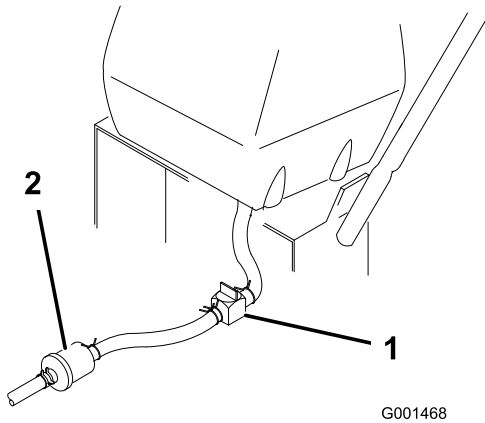

Figure 31
- Close the fuel shut-off valve at the fuel tank (Figure 31).
- Squeeze the ends of the hose clamp together and slide it up the fuel line away from fuel filter (Figure 31).
- Pull the fuel line off the fuel filter (Figure 31). Open the fuel shut-off valve and allow the gasoline to drain into a gas can or drain pan.
3. Close fuel shut-off valve at the fuel tank (Figure 31).
7. Open fuel shut-off valve at fuel tank (Figure 31).